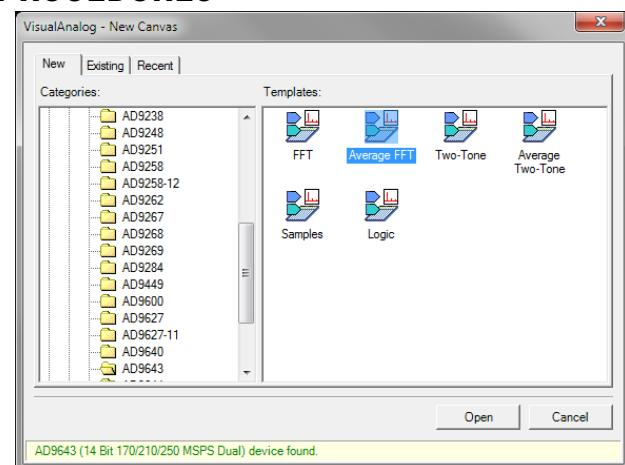

Figure 4. VisualAnalog, New Canvas Window
1. Open VisualAnalog® on the connected PC. The appropriate device type should be listed in the status bar of the **VisualAnalog – New Canvas** window. Select the template that corresponds to the type of testing to be performed (see Figure 4 where the AD9643 is shown as an example). The AD9643 is given as an example in this user guide. Similar settings are used for the AD9613. For the AD6649 and AD6643, the differences are noted where necessary in the steps that follow.